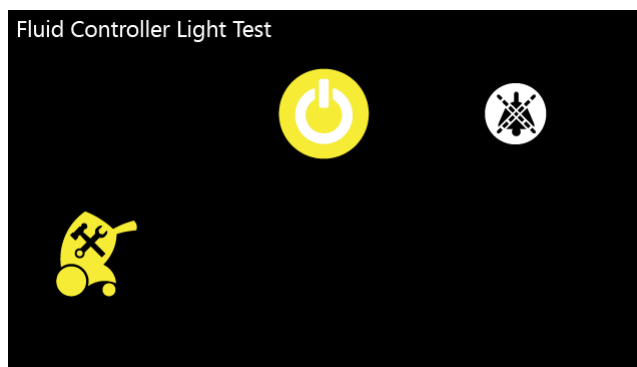

Figure 63: Fluid indicator test
- c. Verify the fluid controller light test illuminates, mirroring the display. (See Figure 63 on page 79).